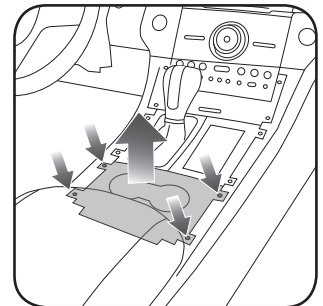

Fig. 1.4
8. Remove four (4) 7mm screws securing the cup holder panel. Unclip and remove the cup holder panel. (Fig. 1.4)